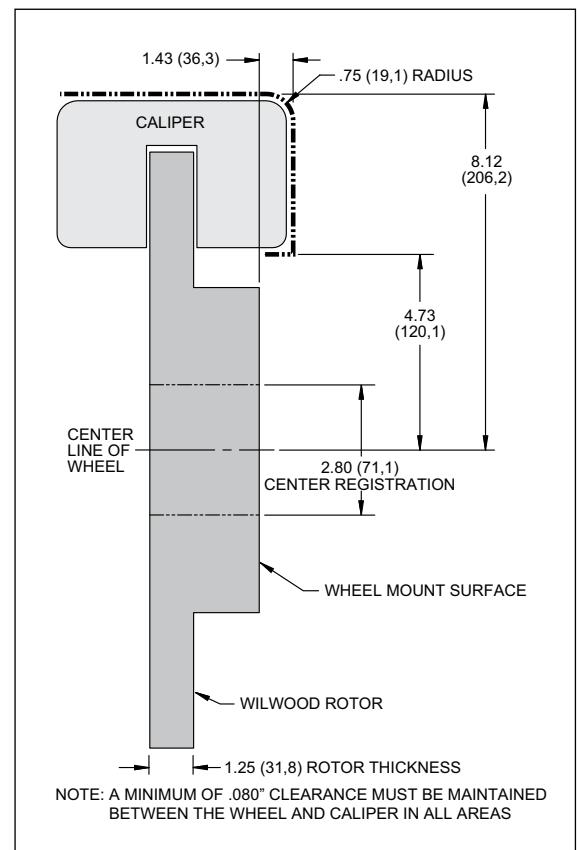

Figure 2, Wheel Clearance Diagram
- Review the wheel clearance diagram (Figure 2, page 3) to verify that there is adequate clearance with the wheels you will be using with the installation.
- Verify your wheel clearance using Figure 2.